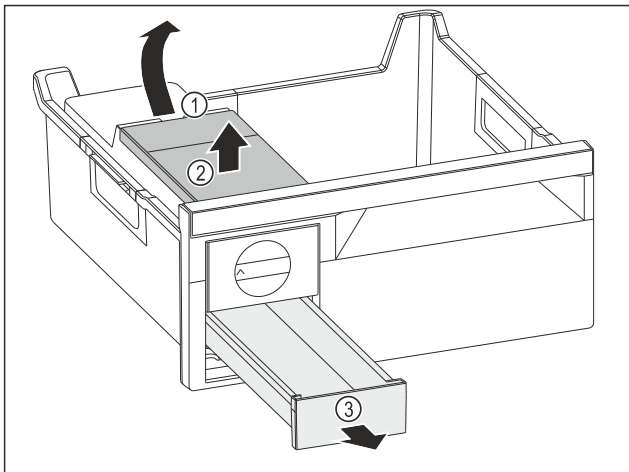

Fig. 81
- ▶ Removing the water tank: Lift the water tank by the recess Fig. 81 (1).
- ▶ Remove the water tank Fig. 81 (2) upwards.
- ▶ Remove the ice cube drawer Fig. 81 (3) to the front.